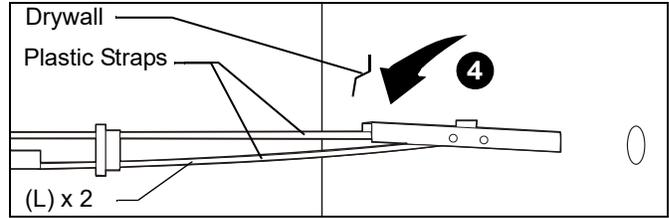

Figure 22
4. Hold metal channel on drywall anchor (L) flat alongside plastic straps and slide channel through hole. (See Figure 22)